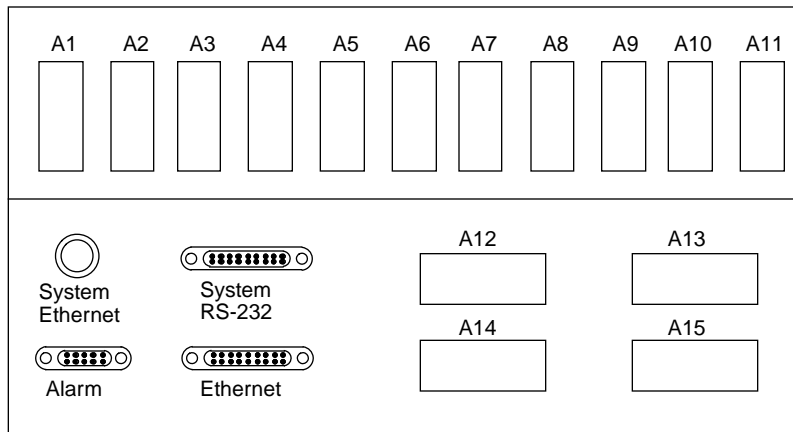
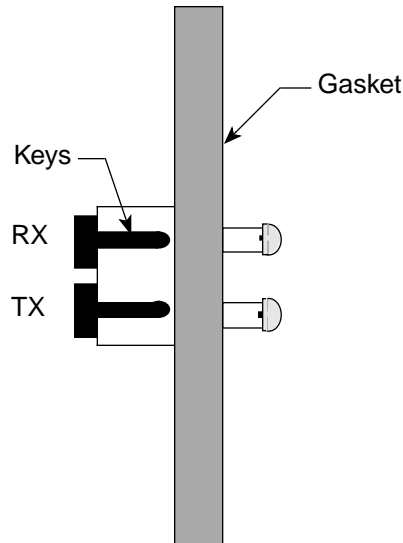

Figure 3. I/O Bulkhead
Figure 4. AT-1 Bulkhead Connector Assembly
1. Remove the cover plates from I/O bulkhead location A14 or A12. Refer to Figure 3. Each cover plate is connected by two screws.
2. Install the assembled ATM bulkhead plate into slot A14 or A12 with the keys facing upwards. Refer to Figure 4.
5. Reconnect the flexible cable way using the two screws originally removed from the flexible cable-way bar. Refer to Figure 4.
Connect the multimode 3-meter cable assembly (P/N 90369300) cable to the I/O bulkhead plate as shown in Figure 3. Ensure that the keys are facing upwards as shown in Figure 4, and then connect the cable connectors labeled RX and TX.